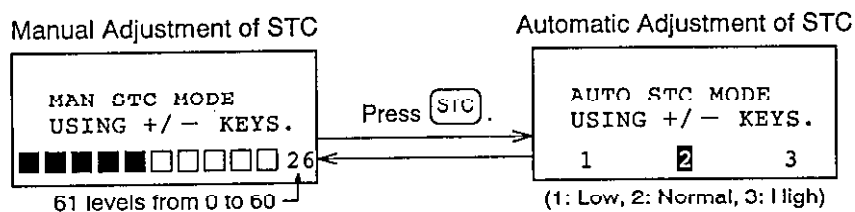

Figure 2-7 Manual and automatic STC adjustment displays
- 2) Press the **STC** key to select manual or automatic adjustment. One of the displays in Figure 2-7 appears.